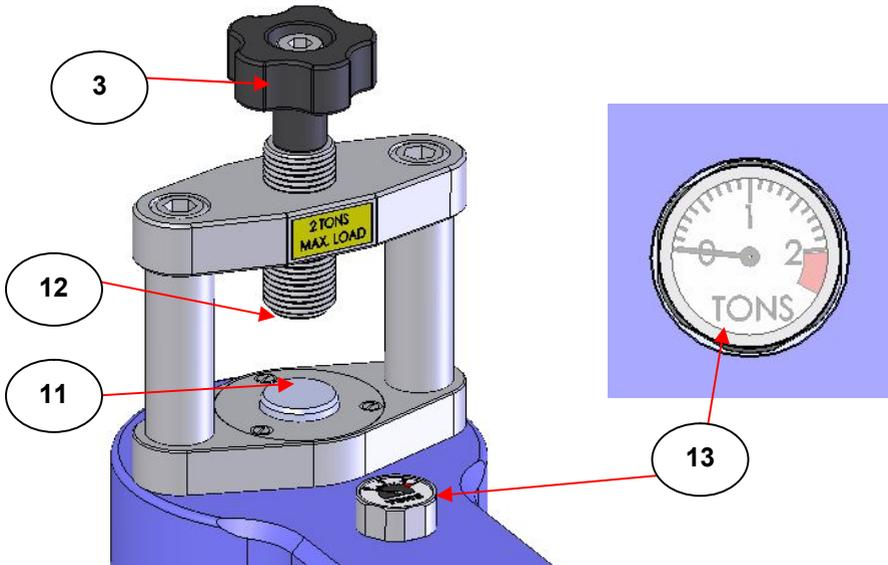

Fig 5. Mini-Pellet Press Piston Area and Pressure Gauge Reading Before Applying a Load
The lead screw (3) on the Mini-Pellet Press is retracted (turned anticlockwise) so there is sufficient “daylight” between the pressing face of the leadscrew (12) and the piston (11) of the Mini-Pellet Press. The piston (11) will be at its rest position for the start of its travel. This will be when there is no applied pressure on the system from the pressure hand knob (4) or shown at the pressure/load gauge (13). (See Fig 5.)